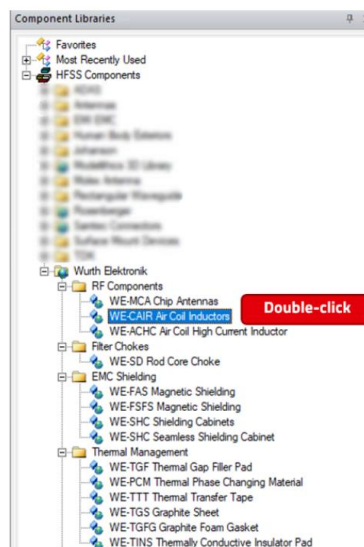

Figure 9: Lead to corresponding webpage.
- Double-click on the series of the desired model. This will open the corresponding series webpage (Figure 9)